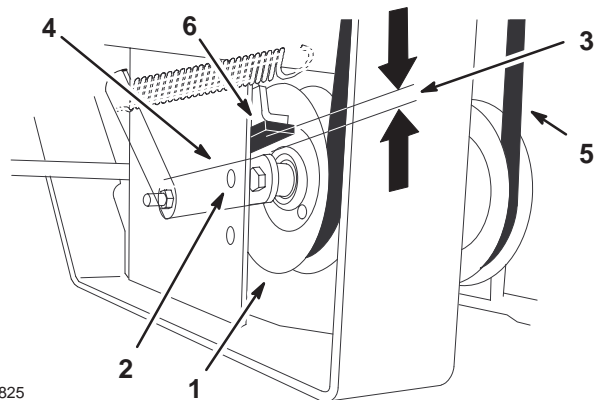

Figure 78
9. Check the distance from the rubber stop and the arm of the spring loaded idler pulley when the idler plate is tightened. It needs to be 0 to 1/4 inch (0 to 6 mm) from the rubber stop (Fig. 78).